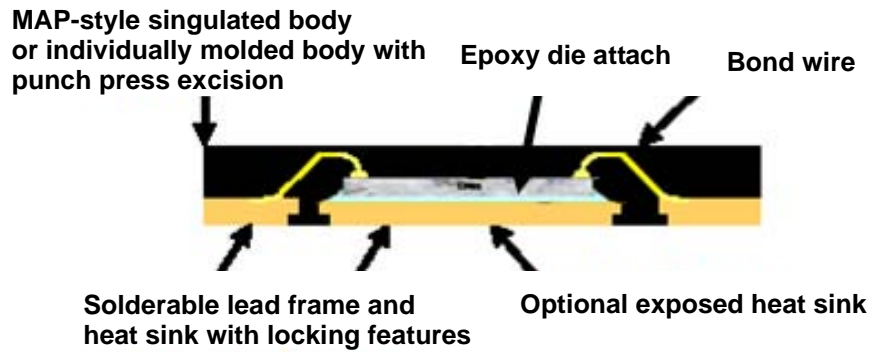
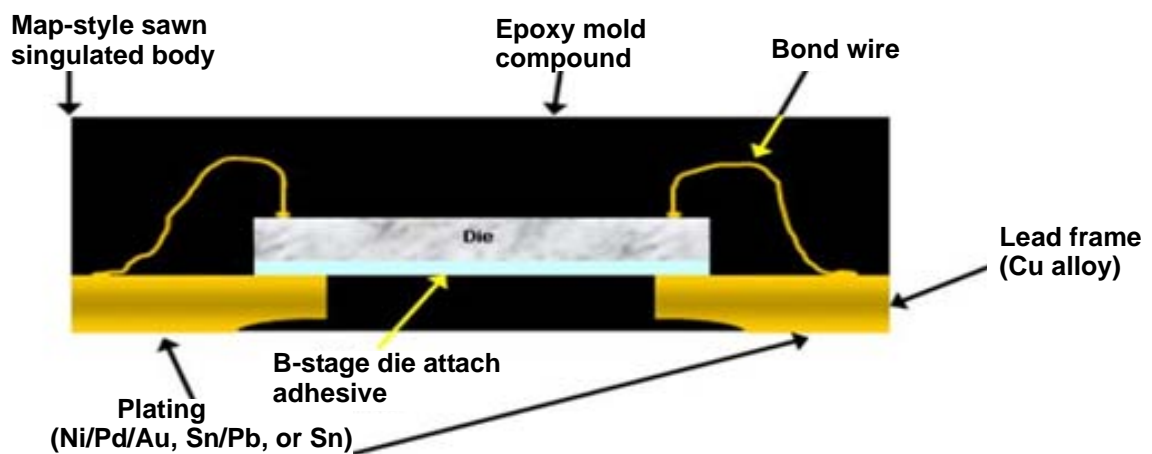

Figure 2. Sawn DFN / QFN (cross-section view)
Figure 4. Sawn DFN – Chip-on-Lead (CoL) (cross-section view)
- Figure 2 shows a cross-section of a typical sawn DFN / QFN, a lead-frame-based package with wire-bonding technology.
- Figure 4 shows a sawn DFN Chip-on-Lead.
The cross-sectional profiles for each are different and are shown in Figure 2 to Figure 4. In this section, both styles of QFN are discussed. In subsequent sections, guidelines or information related to a specific style of DFN / QFN is stated as such; otherwise, the material applies to both styles.